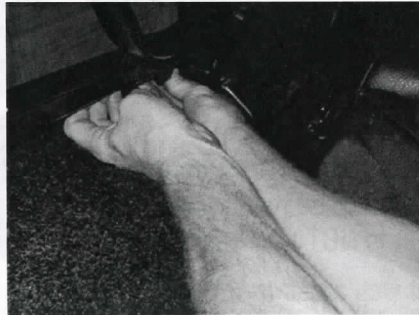

FIGURE 3:
7. Now pull down the top of the wheel well piece to access the hook fastener. Clean the surface with alcohol then remove the film backing and roll the part back into place. (Fig. 3) Firmly press the top surface to ensure adhesive attachment.